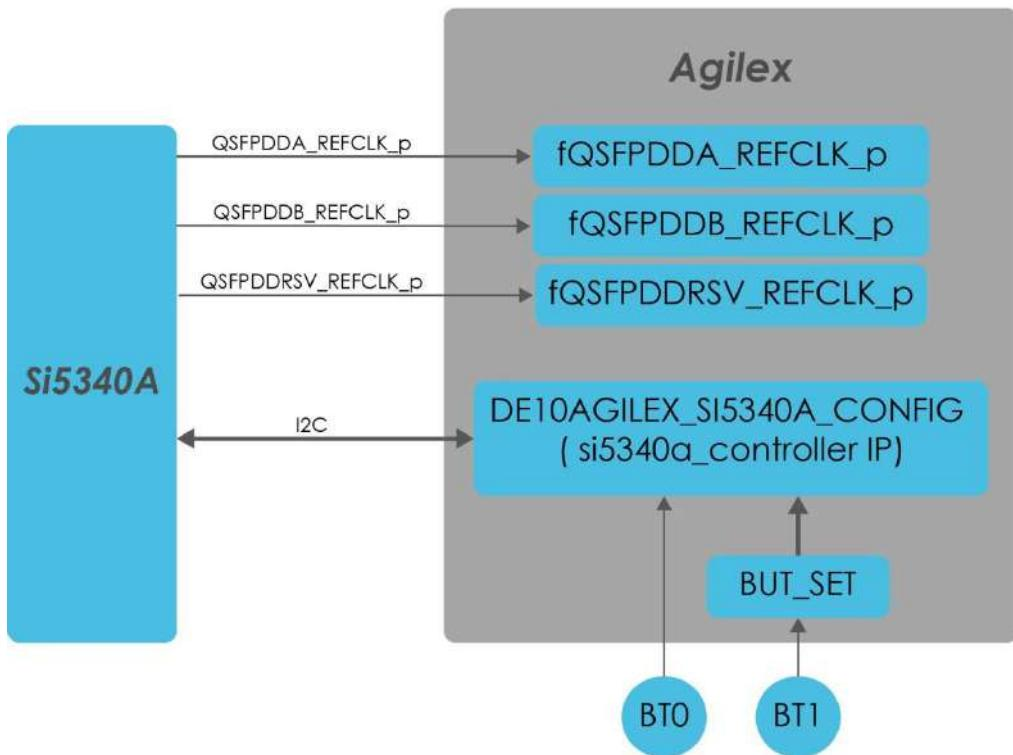

Figure 5-8 Block Diagram of the Clock\_Controller Demonstration
**Figure 5-8** shows the system block diagram of this demonstration. The Si5340A clock generator is controlled by si5340a\_controller\_ip through the I2C bus. In this demonstration, a si5340a\_controller\_ip can generate 9 kinds of frequency settings to control the si5340a clock controller. User can select the output frequency through button1. Each time button1 is pressed, the output frequency setting will be changed. After selecting the output frequency, press button0 to let si5340a\_controller\_ip output the selected frequency setting to the si5340a clock generator through I2C bus to generate the desired frequency. Three clocks generated by the Si53040a clock generator will be output to the Agilex FPGA. The input frequency can be calculated by the three modules fQSFPDDA\_REFCLK\_p, fQSFPDDB\_REFCLK\_p and fQSFPDDRSV\_REFCLK\_p. The user can use the SignalTape II tool to observe the measurement registers in the module to verify whether the input frequency is correct